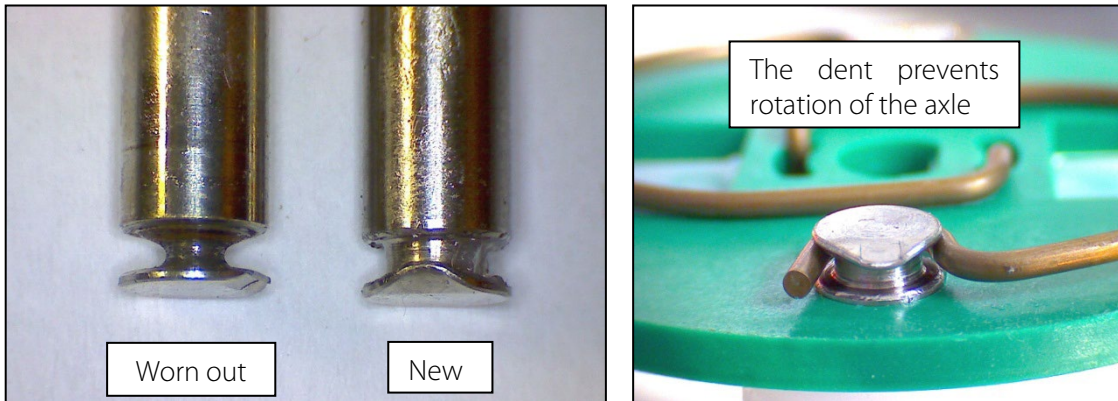

Figure 19 Check of axles and rolls
3. Remove the pump head ② from the motor shaft
5. The removal of the springs (4 pcs.) ③ away from the driver is easily possible without the aid of any tools. For this take spring out of the groove ④ near to the shaft bore.
6. Dismount roller axes and change contact pulleys. Take care that axles are not worn out by the springs and have damaged the dent at the axles front end. The axles must be replaced when worn out (see Figure 19).
- Make sure that contact pulleys roll easily on the axles. After remounting the axles with contact pulley into the driver the spring has to be mounted as shown in Figure 19. Please pay attention to the alignment of the dent.